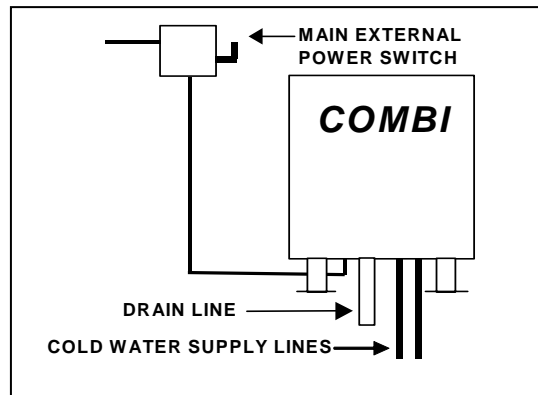

Figure 9
- d. Install a dedicated main disconnect switch and a separate fuse or breaker (per code) for each Combi. The fused or breakered disconnect switch is referred to as the “main external power switch.” (Fig. 9).